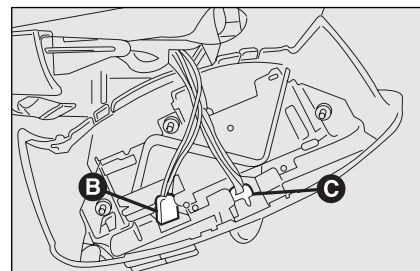

fig. 44
- ☐ disconnect electric connectors **B**-fig. 44 and **C**;